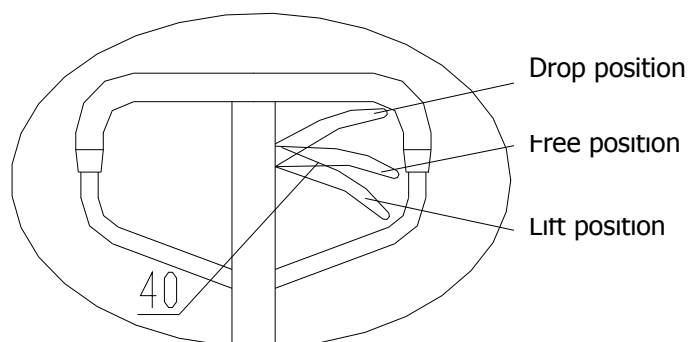

Fig5
4.1 After the truck is assembled, try to rock the hand grip and operate different positions of control handle knob 40 to examine the lifting, free position and dropping and check that whether the different positions are normal or not. See fig 5.
5.3 See fig 5, when hand knob 40 is placed on the lift position, the truck will be in a state of lift. At this time, if you rock the hand grip, the truck will be lifted.
5.4 See fig 5, when hand knob 40 is placed on the free position, the truck will travel. At this time, if you rock the hand grip, the truck will neither lift nor drop. Then, you can use the truck to move the cargo.
5.5 See fig 5, when the hand knob 40 is placed on the drop position, truck forks will drop. At this time, the truck forks will drop automatically.